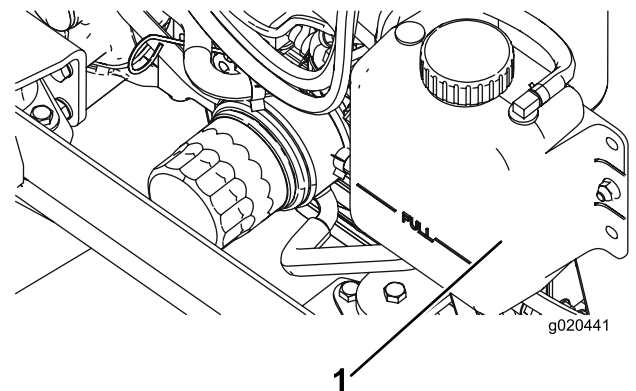

Figure 98
- Carefully remove the radiator cap and expansion-tank cap (Figure 98).